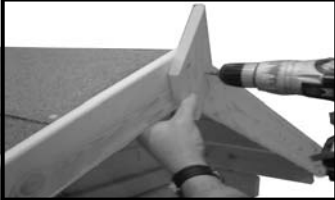

Fig I2
2. Drill diamond and screw with 2x50mm screws . (fig I2)